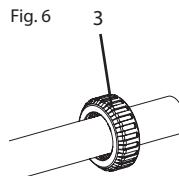

Fig. 7
2. Adjust the valve to the installation leaving the union nut (3) Fig. 6 on the pipe before gluing the end connector (5) Fig. 7.